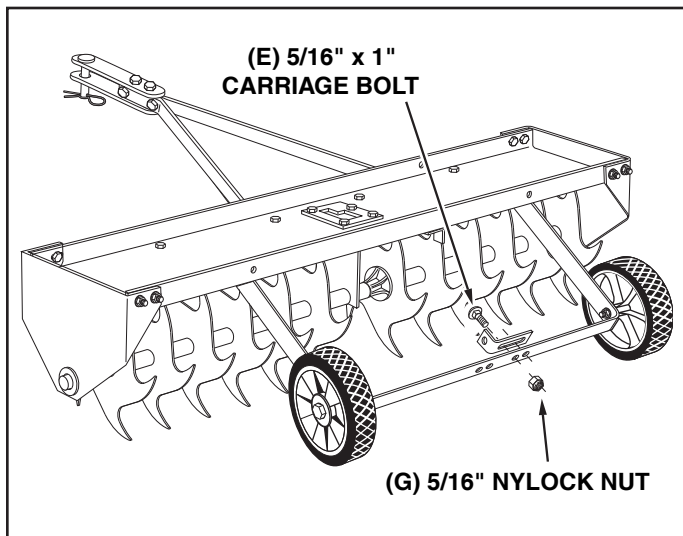

FIGURE 14 **REAR VIEW**
24. Assemble a hitch arm mount bracket to the axle bracket using two 5/16" x 1" carriage bolts (E) and 5/16" nylock nuts (G). **Do not tighten yet.** See figure 14.